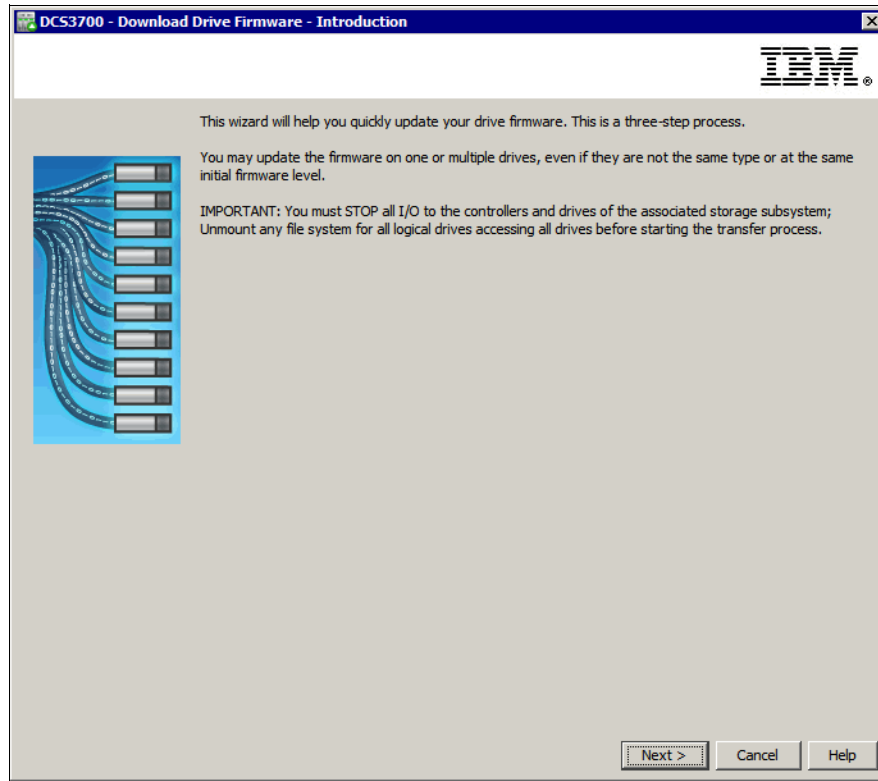

Figure 14-43 Download Drive Firmware - Introduction window
1. With the Download Drive Firmware wizard open, read the information that is displayed on the introduction window (Figure 14-43) and then click **Next**.